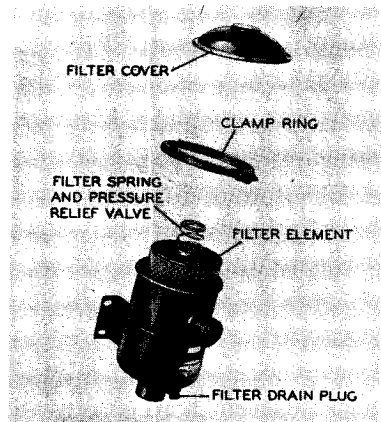

Figure 26. Transmission
3. Remove the transmission filter drain plug, Figure 26.
4. To replace the contaminated filter element with a clean filter element, remove the clamp screw and ring. Figure 26. IMPORTANT: Be careful when removing filter cover not to lose filter spring and pressure relief valve.
5. Drain and flush out the filter body with clean fuel before installing the new filter element. After installing the new element, reinstall pressure relief valve, spring, cover clamp ring and screw, Figure 26.